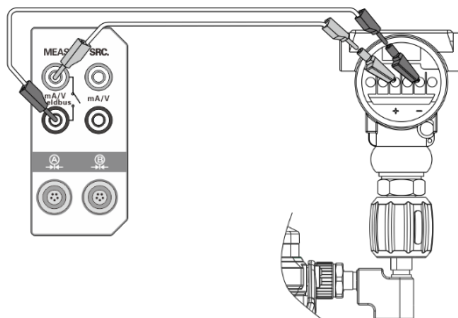

Figure 22 Calibration of a 2-wire pressure transmitter
- ◆ For 2-wire pressure transmitter connect as shown in Figure 22.